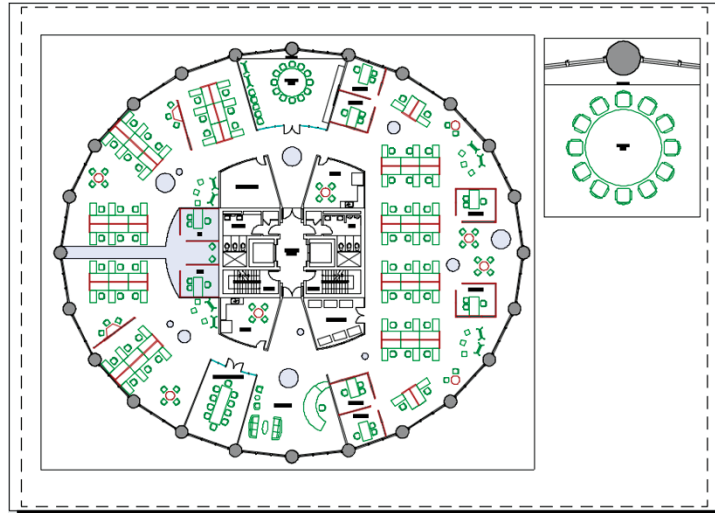

FIGURE 13.20 Creating and configuring a new viewport detailing the Conference Room
10. Double-click within the new viewport to enter its model space. Select $1/2" = 1'-0"$ (or 1:20 in metric) in the Viewport Scale menu on the status bar; the viewports zoom into the Elevator Lobby again. Pan downward until you center the view on the Conference Room. Double-click outside the viewport to return to paper space. Figure 13.20 shows the result.